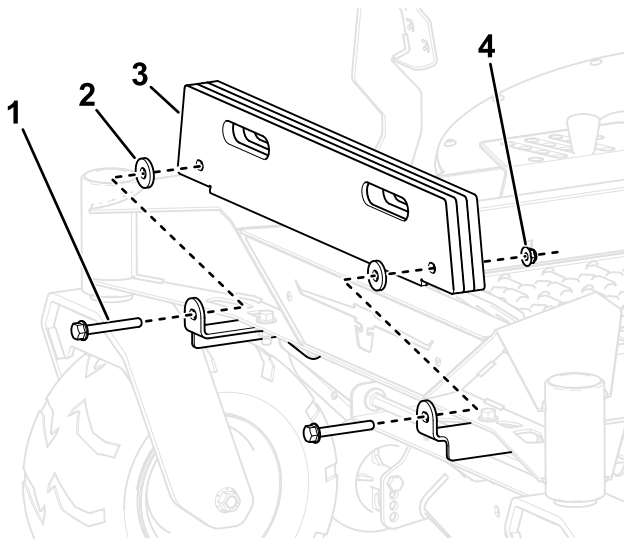

Figure 4
- 2. Install the bagger weights (amount determined by deck size) to the weight mounting brackets to the weight mounts with 2 bolts (3/8 x 2-3/4 inches), washers, and locknuts (3/8 inch) as shown in Figure 4.